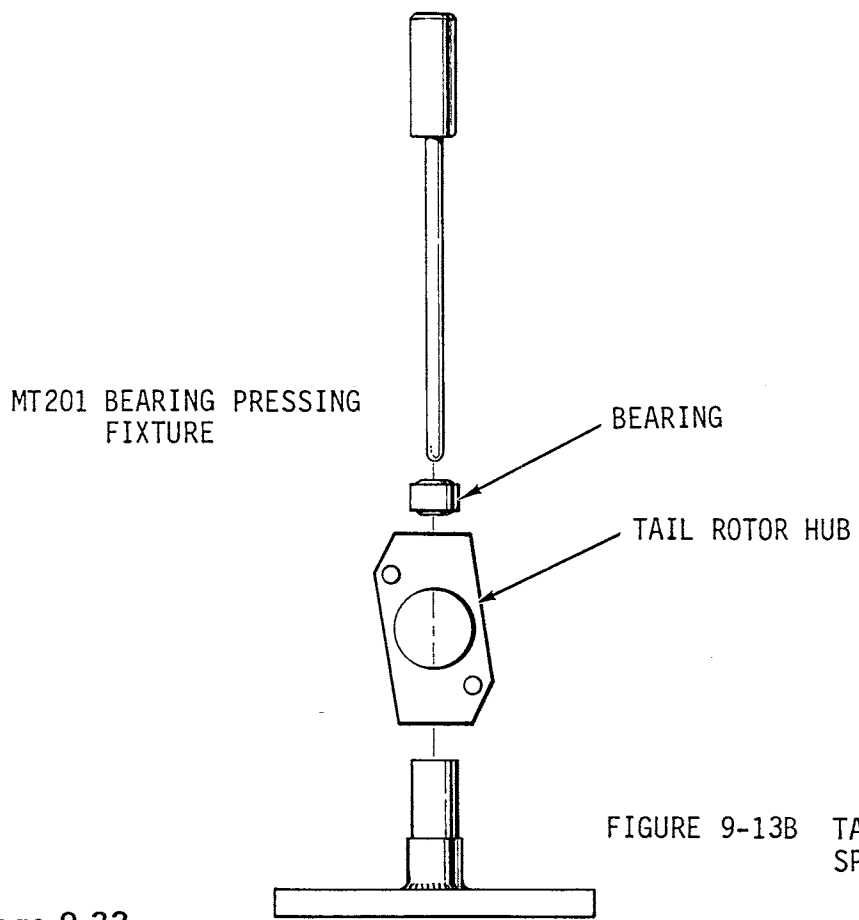

FIGURE 9-13B TAIL ROTOR HUB SPHERICAL BEARING REPLACEMENT
6. See Figure 9-13B. Using special tool MT201, install bearings into hub as follows: